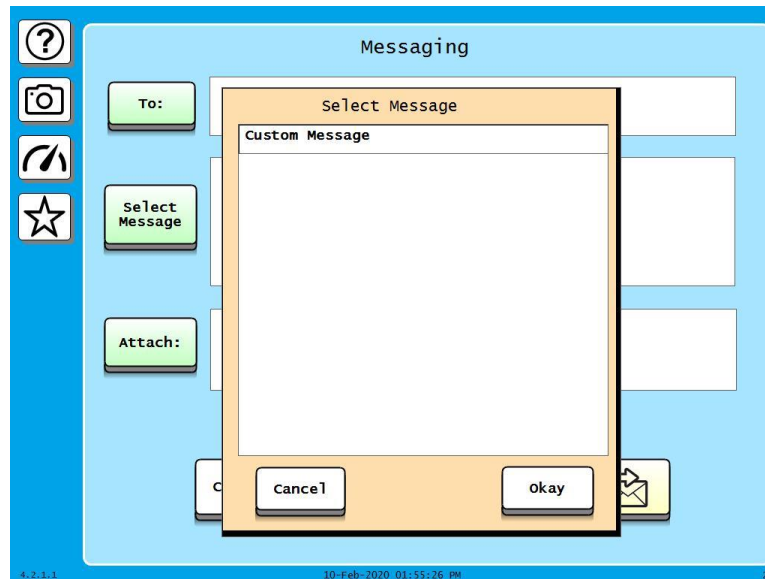

Figure 6-25. Messaging Screen: List of Messages
4. Press SELECT MESSAGE to display a list of messages, as shown in Figure 6-25.